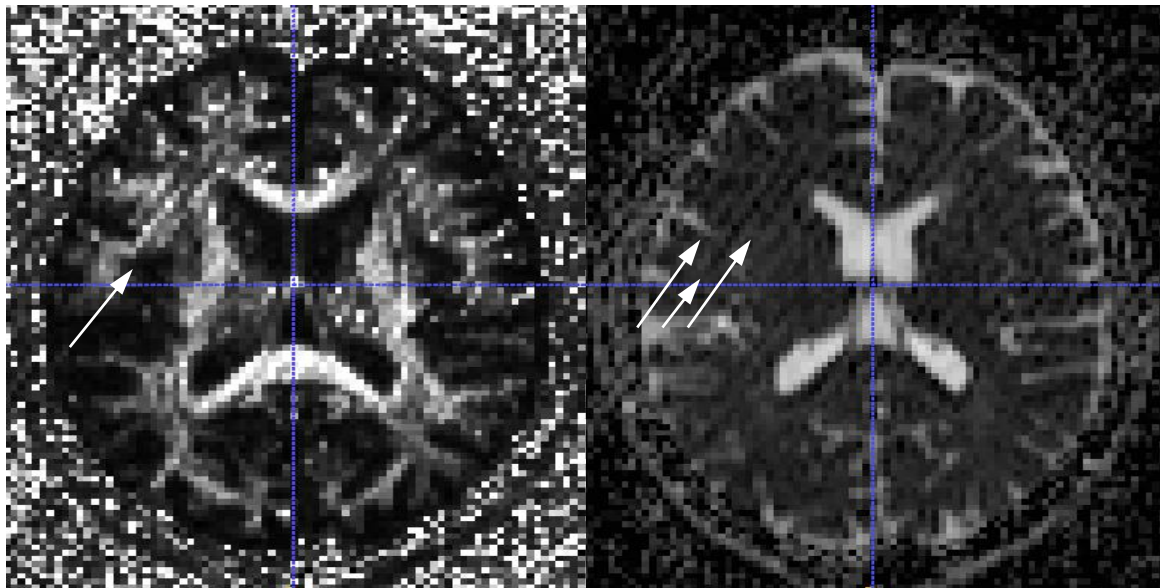

Figure 4.4 Diagonal NRRD artifact displayed in ITK SNAP, FA and MD images respectively
- Diagonal NRRD artifact, Figure 4.4 demonstrates this diagonal striping artifact. The MD image reveals the large extent of the brain area affected by this issue.